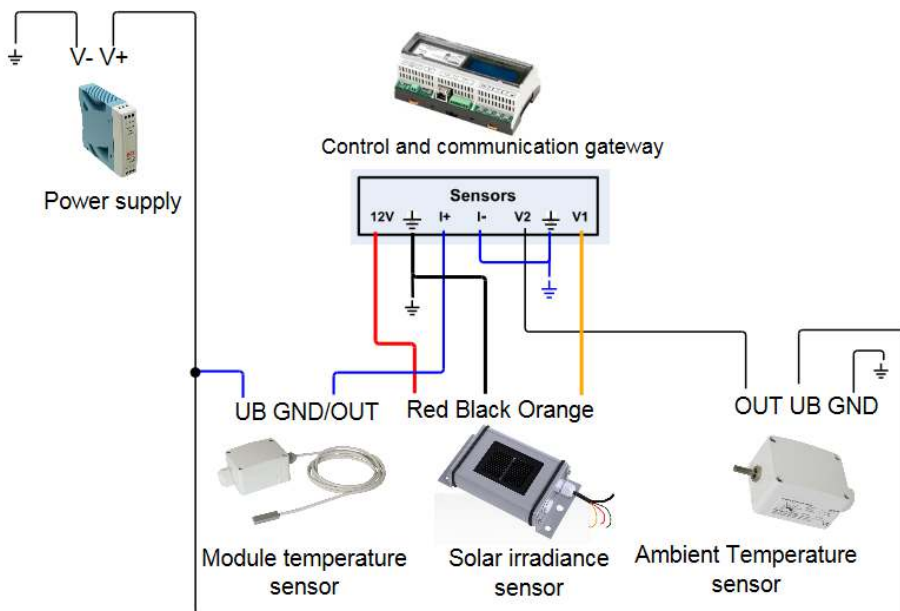

Figure 18: Sensors connection diagram
- 3** Depending on the sensor type, connect as follows (see Figure 18):